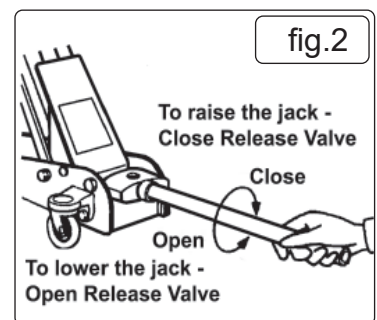

fig.2
- 6.2.4. Turn the release valve clockwise, to the closed position (Fig.2).